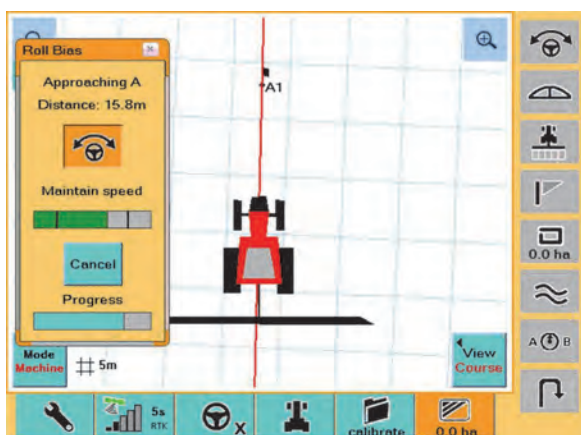

Figure 2-29: Roll Bias calibration - approaching point A
7. Perform a keyhole turn and manually steer the vehicle back toward the AB line (toward point A). When you are close enough to the guideline for the vehicle to auto-steer, the steering engage button becomes active: press it. The window message changes to **Approaching A** and the steering button changes to the engaged condition (Figure 2-29).